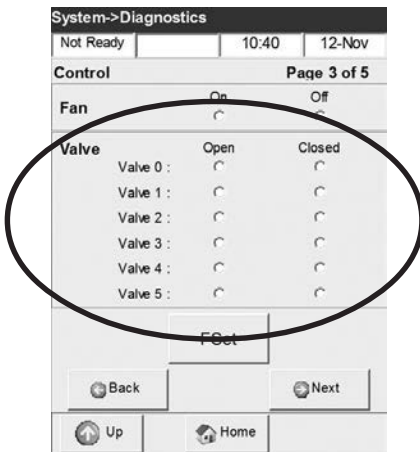

Fig. 7-8 Valves
- Select **<Open>** or **<Closed>** for the following valves (Fig. 7-8):